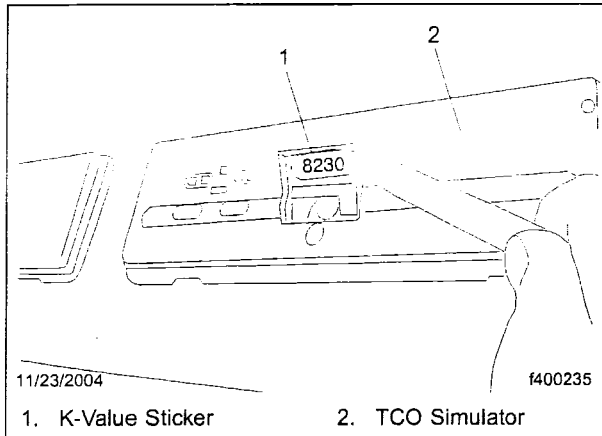

Fig. 9, Attach the K-Value Sticker
26. Adhere a new sticker from the appropriate recall kit (A 617 584 03 38) with the current K-value (8230) under the flap of the TCO simulator. See Fig. 9.